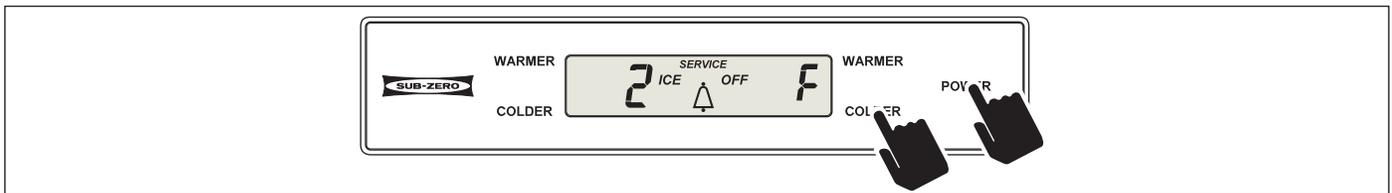

Figure 3-60. Initiate Diagnostic Mode First - Press and Hold Either COLDER Key, Then POWER Key
To initiate Manual Entry Model Configuration Mode the unit must be ON and in Diagnostic Mode (See Figure 3-60). Then, press and hold the POWER key for fifteen (15) seconds. The unit will now be in Model Configuration Mode, with the model code of the last configuration displayed (See Figure 3-61 and Model Code Table on previous page). If needed, toggle through the model codes by pressing WARMER or COLDER keys, until appropriate model code is displayed (See Figure 3-62 and 3-63). With the appropriate model code displayed, press the POWER key to store model configuration (See Figure 3-64).